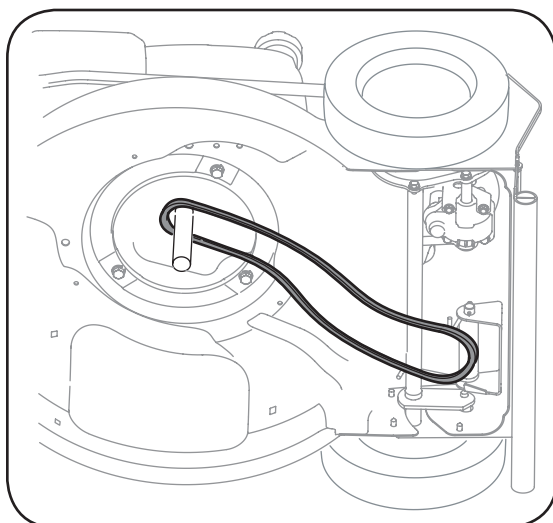

Figure 5-8: Remove belt from crankshaft after freeing it from the transmission pulley.
12. Remove belt from around the crankshaft. See Figure 5-8. Discard the worn belt.